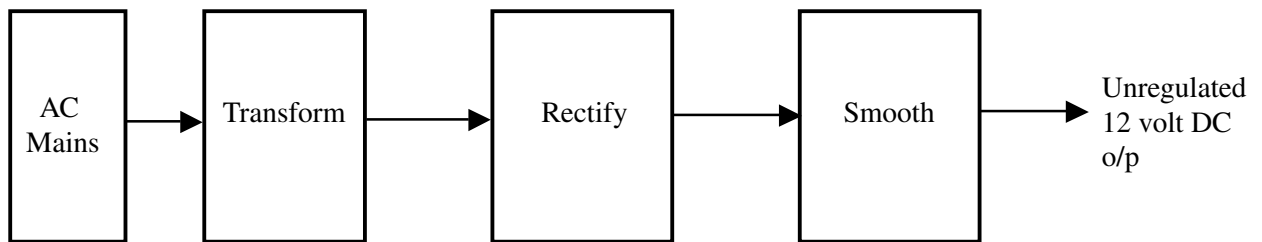

Fig. 3(a)
- 3 (a) The designers of a children's electronic game require a low cost power supply. A block diagram for an unregulated low voltage DC power supply is shown in Fig. 3(a).
- (i) Briefly explain the function of the Transform, Rectify and Smooth blocks shown in Fig. 3(a). [3]